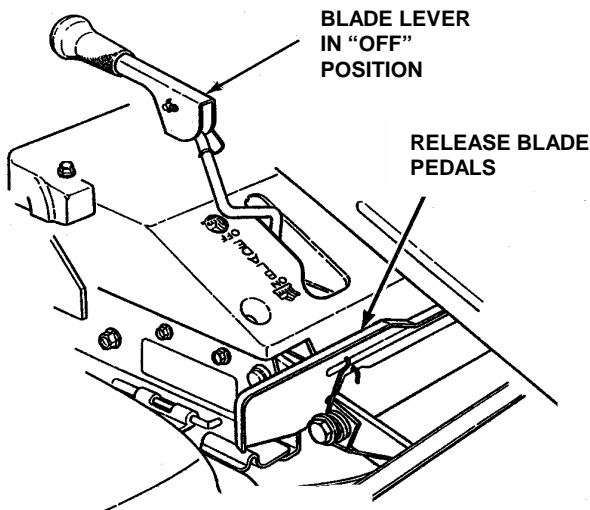
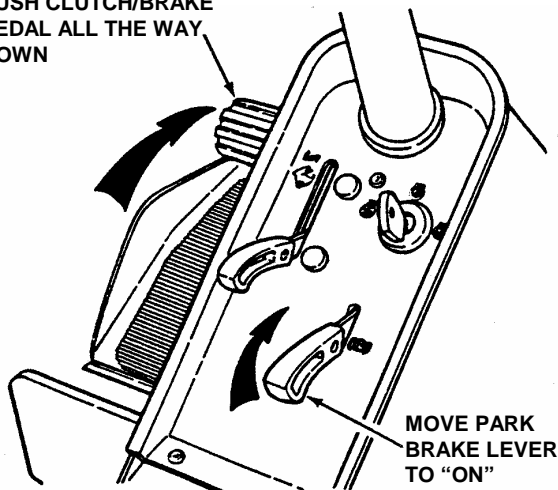

FIGURE 2.4
FIGURE 2.8
2. Make certain the Blade Lever is in the "Off" position. See Figure 2.4.
IMPORTANT: When the ignition key is turned to "RUN", and the recoil handle is pulled, the engine will turn over, but will not start unless the Clutch/Brake Pedal is pressed all the way down with Parking Brake engaged (See Figure 2.8) and the Blade Lever is in the "Off" position (See Figure 2.4). Start engine as follows:
3. Press Clutch/Brake Pedal all the way down, lift Parking Brake Lever and release the Clutch/Brake Pedal to set Parking Brake. See Figure 2.8.